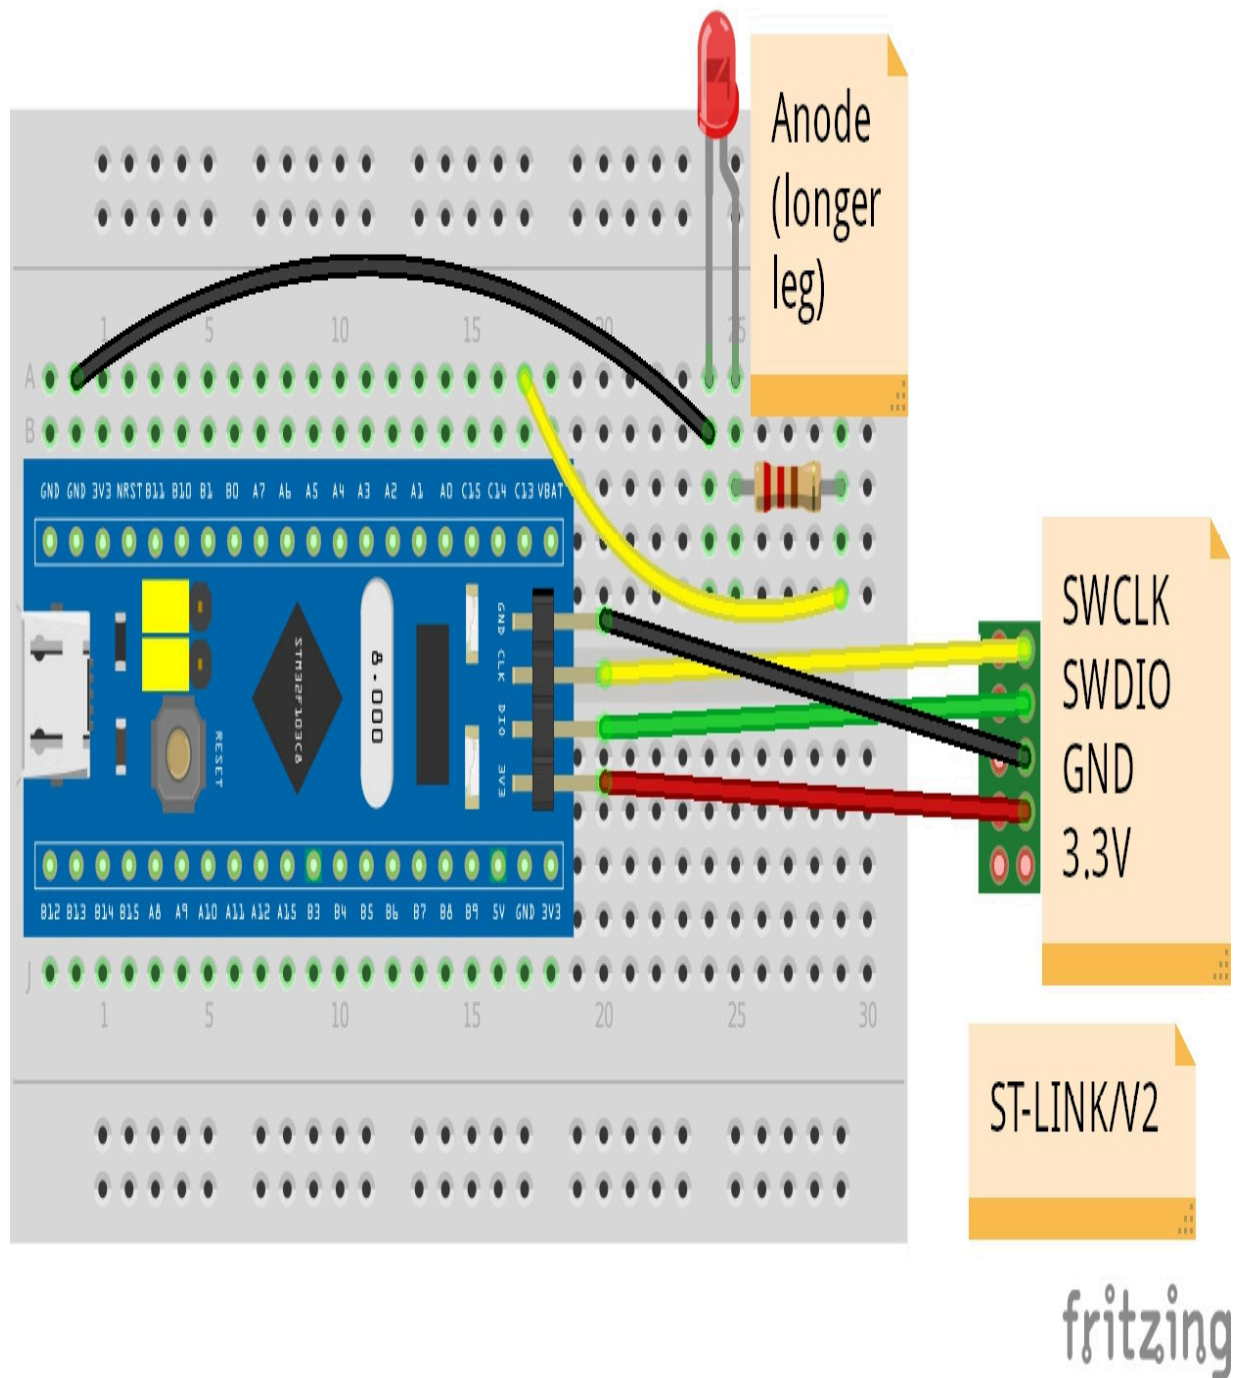

Figure 1.12 – The Blue Pill, LED, and ST-Link/V2 connections
The connections between the ST-Link/V2 and the Blue Pill are shown in *Figure 1.12*:
*Figure 1.12* shows the connections we have made. Please note that here there are four DuPont wires connected between the Blue Pill